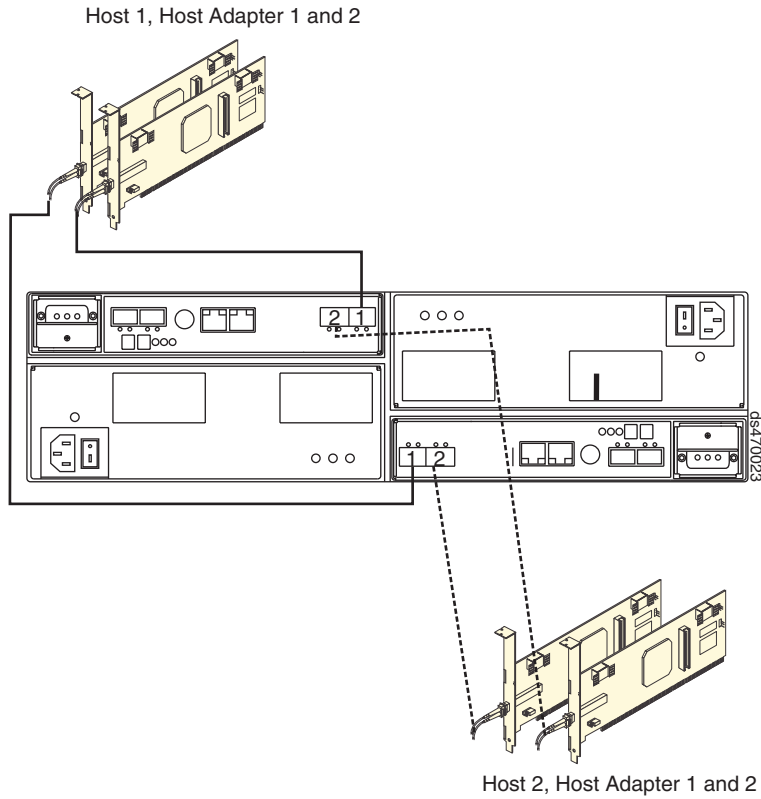

Figure 85. Cabling diagram for two redundant host connections
3. Repeat steps 1 on page 104 and 2 for each additional redundant host connection. You can create a maximum of two redundant host connections for the DS4700 Express Storage Subsystem model 70, as shown in Figure 85 on page 106